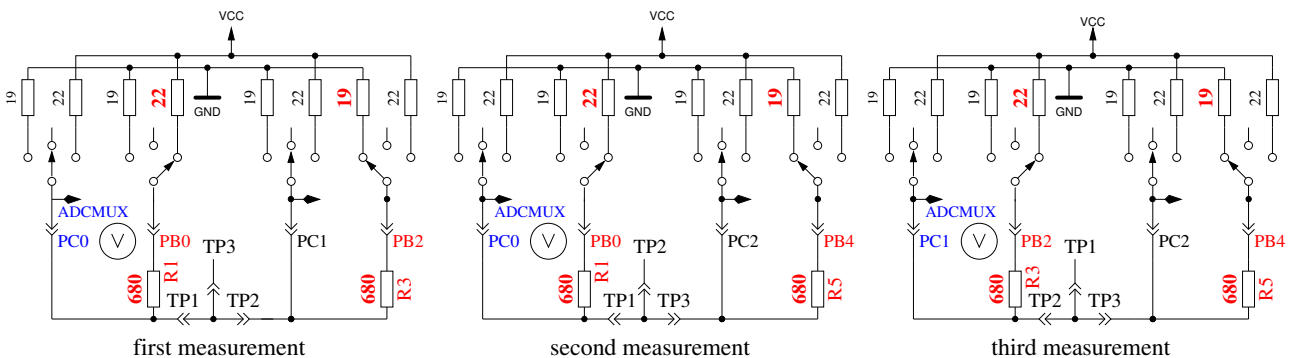

Figure 5.45: Comparison of 680Ω resistors
- Comparing of the 680Ω resistors.** In row 1 the cryptic text “+RL- 12 13 23” is shown. Meaning of this is as follows: The RL is the short form of Resistor Low meaning the 680Ω resistors. The 12 stand for: resistor at pin 1 is connected to VCC (+) and resistor at pin 2 is connected to GND (-). The result of this measurement is displayed in row 2 at the first place as difference to the theoretical value. In row 1 follows now a “13” which means, that the first connection of measurement 1 is still connected with 680Ω to VCC but that the resistor of pin 3 is connected to GND. The result is displayed in the middle place of row 2 as difference to the theoretical value. The last measurement of this test “23.” means that now the resistor at pin 2 is connected to VCC (+) and the resistor of pin 3 is connected to GND. The result of measurement is displayed at the last place of LCR row 2 as difference to the theoretical value. Please remember, that the resolution of the ADC is about 4.88mV! The measurement situation is also shown in figure 5.45. The theoretical value with respect to the internal resistance of the pins should be: $\frac{5001 \cdot (19+680)}{(19+680+680+22)} = 2493$.